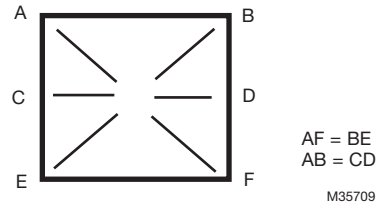

Fig. 2. Opening dimensions should be square.
1. Duct opening or opening square should measure 1/4 inch (6mm) larger than damper dimension and should be straight and level. See Fig. 2 and 3.